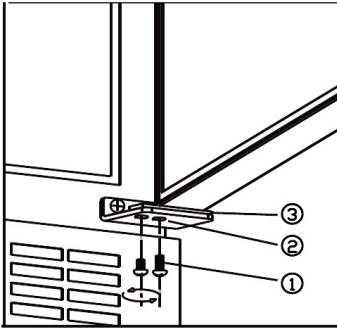

fig. 5.1
- Dismount the screws (1) SUPPORT THE DOOR! See fig. 5.1